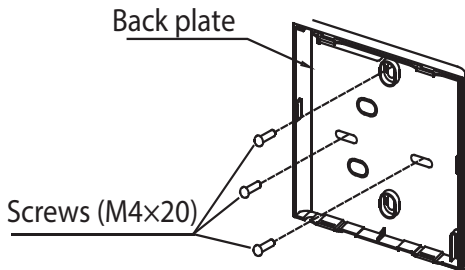

Fig. 8 – Fasten Back Plate
1. For surface mounting, fasten the back plate on the wall with the 3 screws (M4x20) and plugs (see Fig. 8).